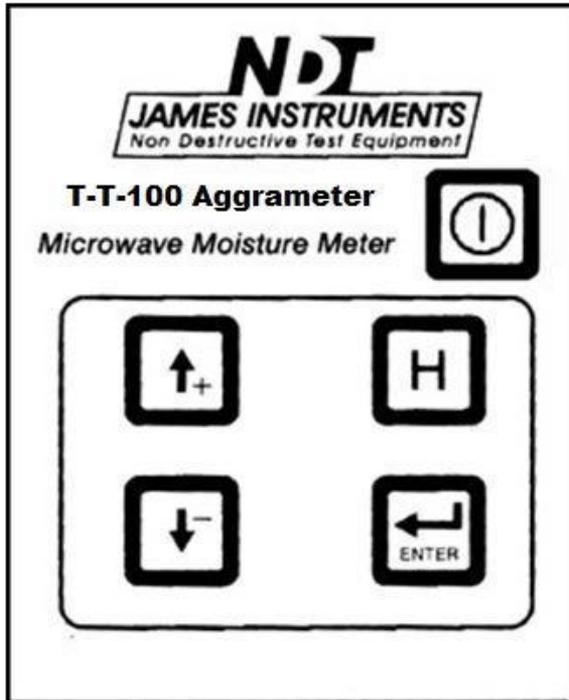

Figure 9: Aggrameter® Buttons
7. Once all of the data has been transferred, it will appear on the software screen. (See Figure 9 below)